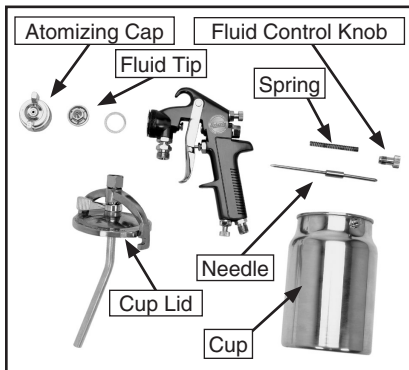

Figure 14. Disassembly for cleaning.
5. Unscrew the atomizing cap with your fingers and the fluid tip with the service wrench. The fully disassembled gun should look like **Figure 14**.